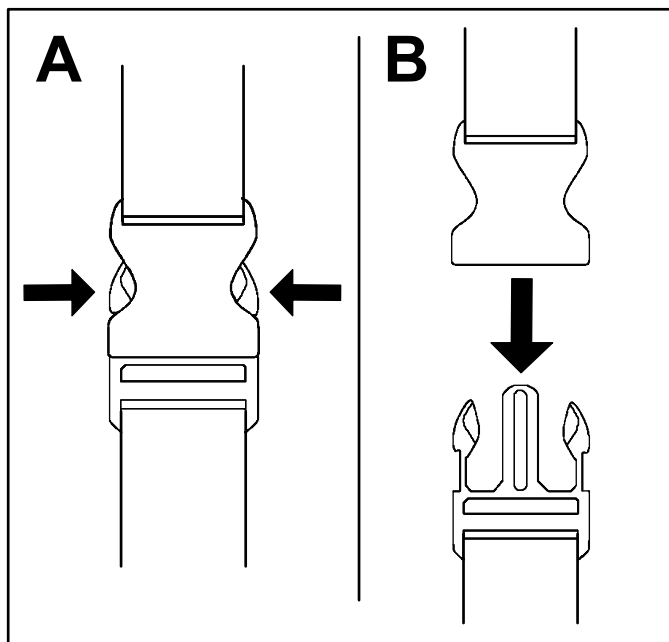

Figure 7
- 1. Press in on the sides of the buckle (A of Figure 7).
- 2. Allow the buckle to disconnect (B of Figure 7).